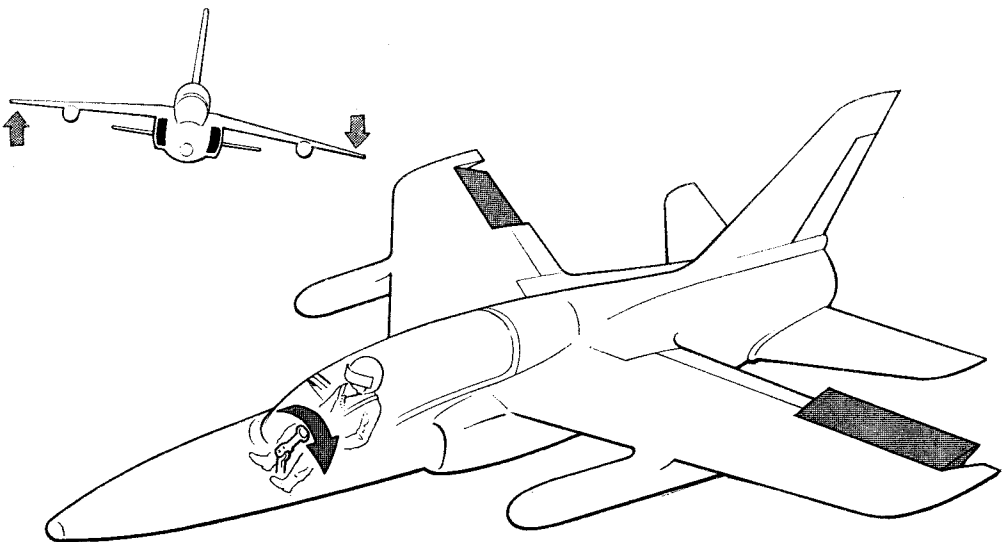

Fig 6 The ailerons
9. **Ailerons.** The ailerons form part of the outer ends of the trailing edges of the mainplanes (Fig 6). They are hinged on to the main structure of the mainplanes and connected to the control column in the cockpit. They are operated from the cockpit by a side to side movement of the control column, or a rotary movement of a control wheel. They are inter-connected so that as the port aileron moves upwards the starboard aileron goes down. This movement in flight would cause the aircraft to roll to port; the reverse movement would cause a roll to starboard.